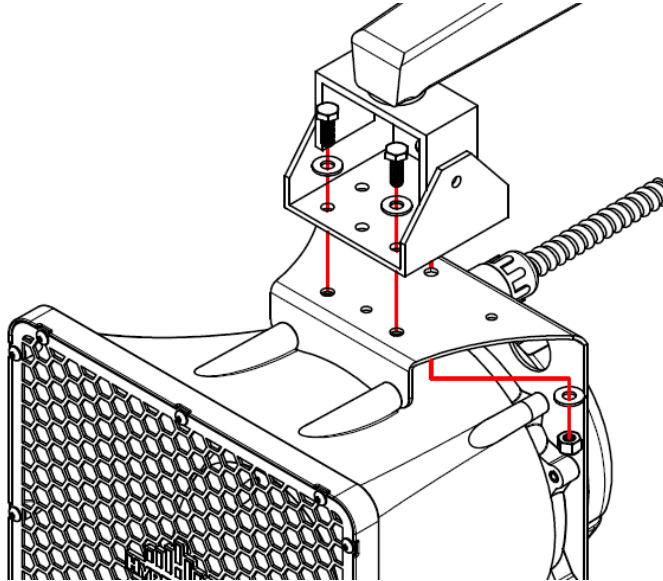

Figure 4: Attaching Wall Mounting Bracket
- 1) To mount a single TCPA-10, attach the mounting bracket to the wall bracket (optional accessory or customer supplied) with three ¼-20 bolts (Figure 4).